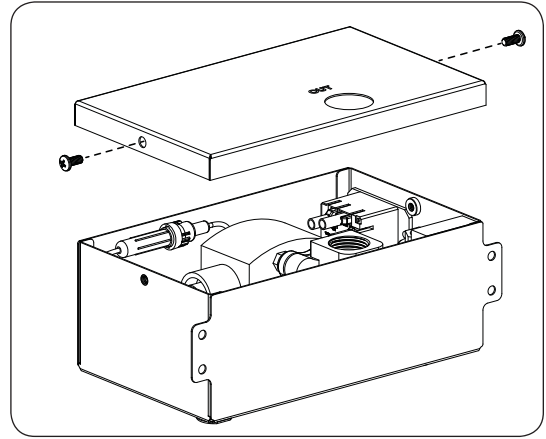

Fig. 35-1 Remove access panel of valve box
4. Use a Phillips screwdriver to remove the access panel of the valve box (see Fig. 35-1).